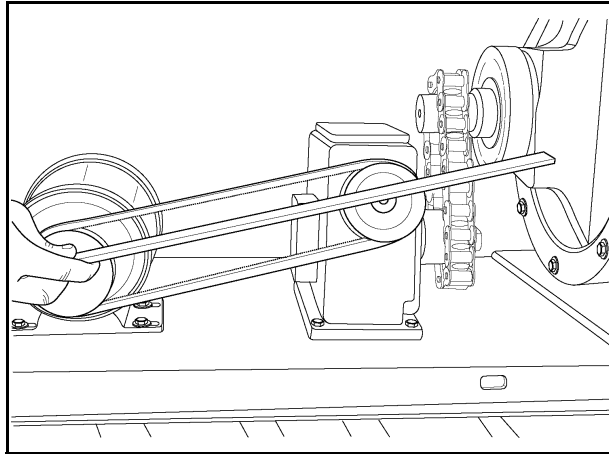

Figure 7I
- Next, place the A-24 belt onto the pulleys. See Figure 7I Tighten the belt to its proper tension of 3/8" deflection at ten pounds of pressure by pulling motor away from gearbox. Tighten the four 5/16" flange bolts on the motor base. Replace the belt shield.